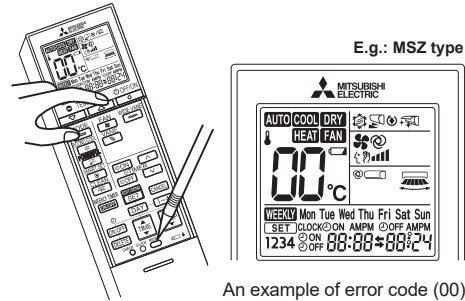

Figure 1
- ① While pressing both Operation select button and TEMP $\oplus$ button on the remote controller at the same time, press RESET button.
- ② First, release RESET button. Hold down the other 2 buttons for another 3 seconds. Make sure that the indicators on the LCD screen shown in the right figure are all displayed. **(Figure 1)** Then release the buttons.